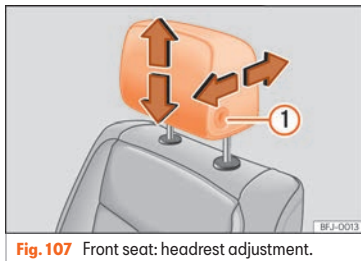
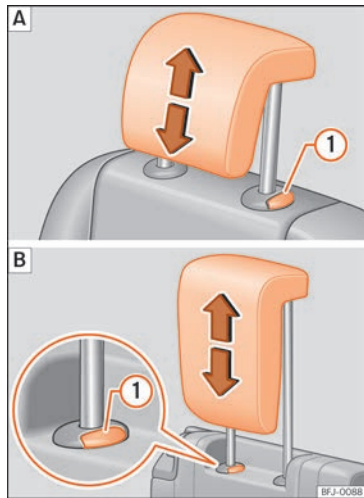

Fig. 107 Front seat: headrest adjustment.
Fig. 108 Adjusting the rear headrests: **A** Second row of seats, **B** third row of seats.
- Move the headrest up or down in the direction of the corresponding arrow. Regarding the rear headrest, to both raise and lower, press the button » **Fig. 107** ⓘ; for the rear headrests it is only necessary to press the button » **Fig. 108** ⓘ to lower them » **⚠** in Introduction on page 132.
- Move the head restraint forward or back in the direction of the corresponding arrow while pressing the button » Fig. 107 ①.